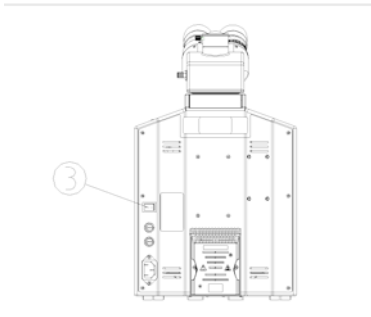

Fig. 2
6. Ensure the power switch is in the “O” (off) position ④ and wait until the lamp cools completely before replacing the bulb or fuse (See Fig. 2).